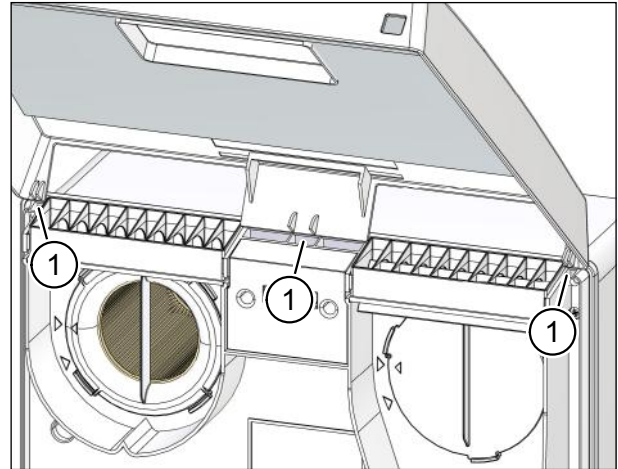

Fig. 32: Cover pivot points
- ▶ Insert the tabs of the cover into the openings (item 1 in Fig. 32) on the top of the ventilation unit.